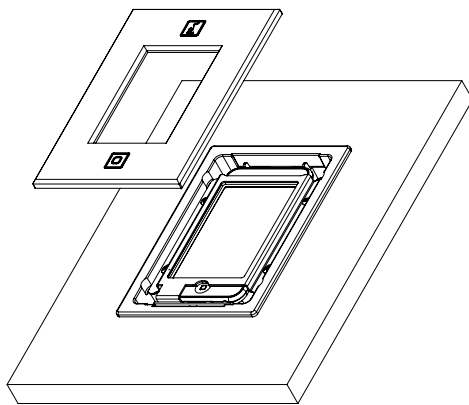

Figure 8: Attaching Cover
14. Attach the faceplate to the utility box as shown in Figure 8.